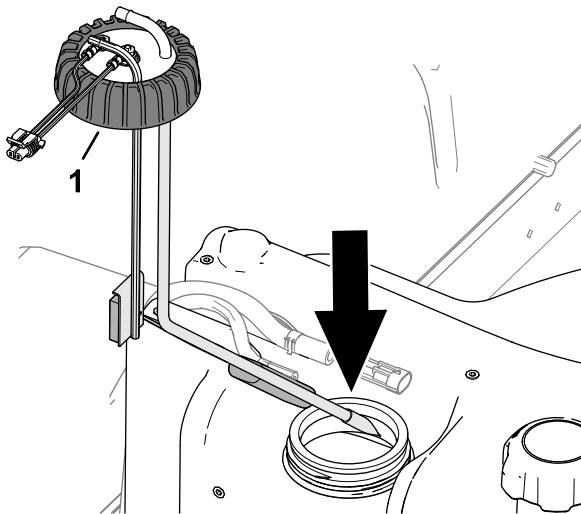

Figure 90
2. Carefully assemble the fuel pick-up tube and float into the fuel tank (Figure 90).